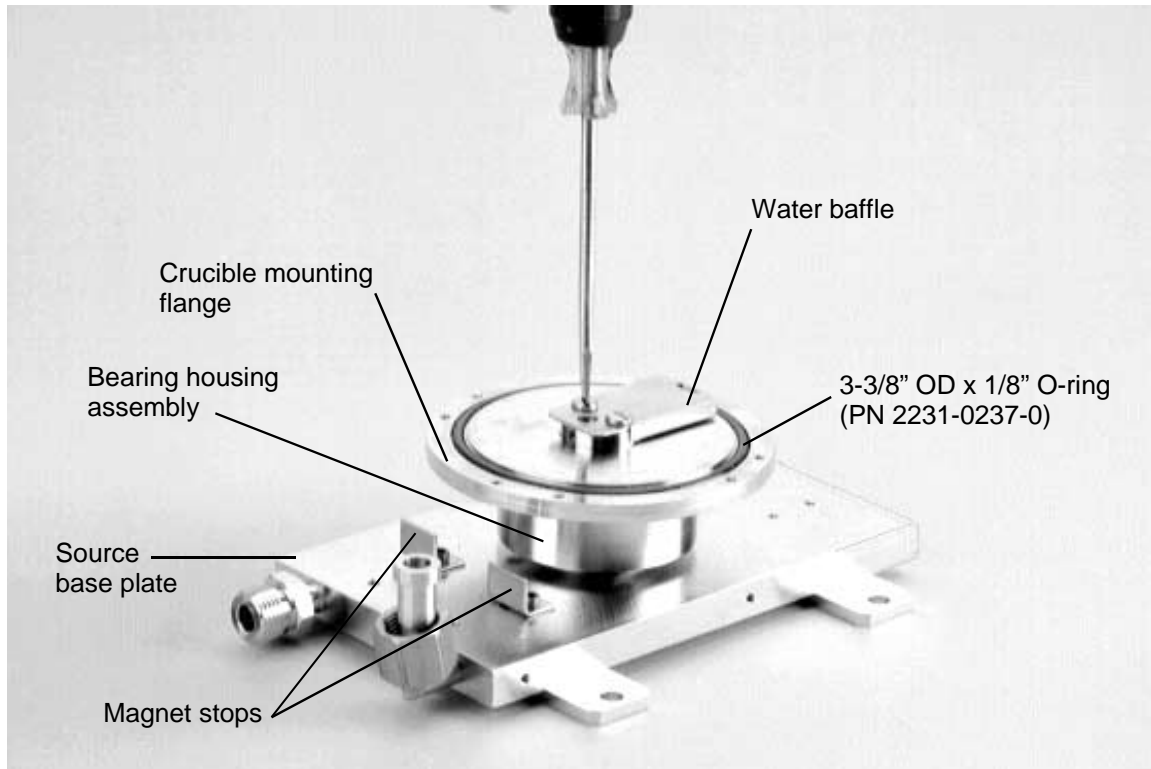

Figure 6-17. Removing the water baffle
Step 10: Secure the water baffle to the top of the pivot shaft, using the pan-head screws provided (see Figure 6-17). Before doing so, make sure that the water baffle points in the same direction as the water notch in the top of pivot shaft.
Before replacing this assembly back on the source baseplate, apply low vapor pressure grease (Apiezon L or equivalent) to the O-ring that fits between the baseplate and the pivot shaft and place this O-ring in the groove in the bottom of the pivot shaft. After attaching the bearing housing assembly to the baseplate, make sure that the water baffle points toward the front of the source, as shown in Figure 6-17.